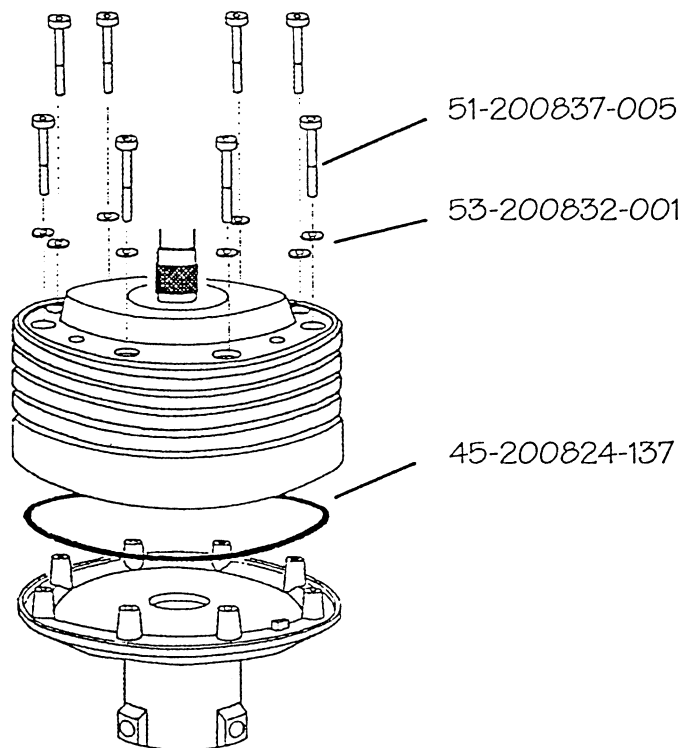

Figure 4.
3. Please locate the 8 screws (51-200837-005) assembling the antenna cabinet upper and lower part. Please remove the 8 screws with an Allen key. See Figure 4. to locate the screws.
4. During assembling you must replace the 8 bonded seals (53-200832-001) with new seals, so please make sure that you have 8 new and then throw the old ones away. See Figure 4. to locate the 8 bonded seals